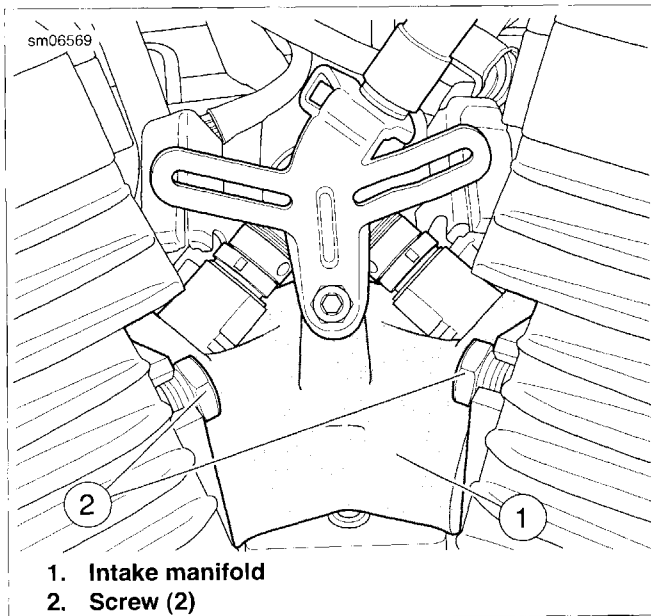

**Figure 4-39. Horn and Cylinder Head Bracket (XL Models With Side Mounted Horn Only)**
12. **XL Models with side mounted horn:** See Figure 4-39. Remove screws (3), washers (2) and cylinder head bracket (1) from engine. Unplug harness connectors [122] from horn (4).